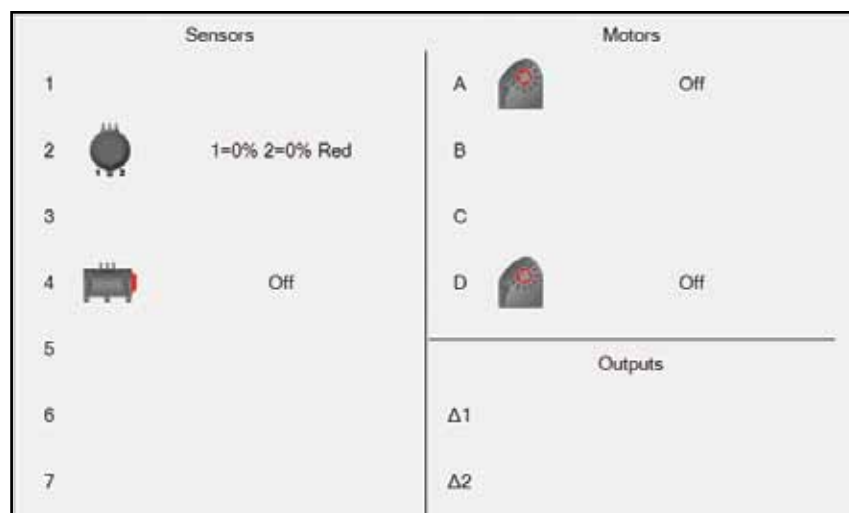

Figure 1: Light Sensor: Port 2, Push Button Switch: Port 4, Right Motor: Port D, Left Motor: Port A
- Specific motor and sensor port connections must be known to correctly program the model. After connecting the USB cable to the Control Box and clicking the "Connect" button in the top menu bar, you should see the icons pictured in Figure 1 in the I/O panel.